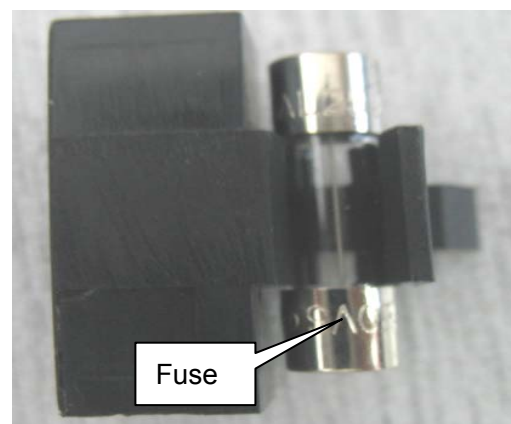

Figure 4-4
2. Take out the fuse holder with a screwdriver, and the fuse will be found as shown in Figure 4-4.